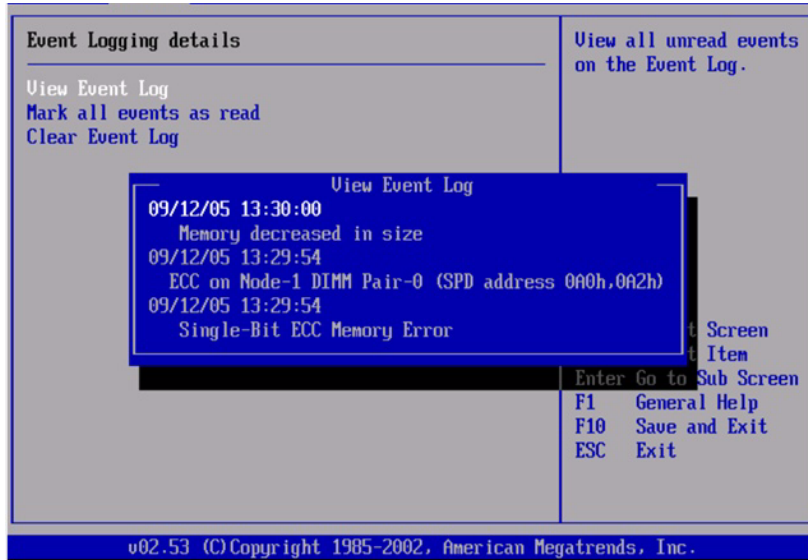

FIGURE E-3 Sample DMI Log Screen, Correctable Error, Memory Decreased
- The BIOS disables the DIMM as indicated by the Memory Decreased message in the example in FIGURE E-3.